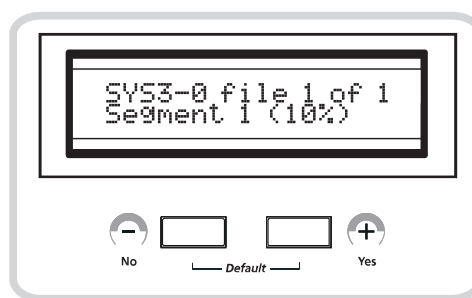

Figure 6-3
8. If the SP3 is receiving the MIDI data correctly, the display will show “Segment 1 (1%)” like Figure 6-3.